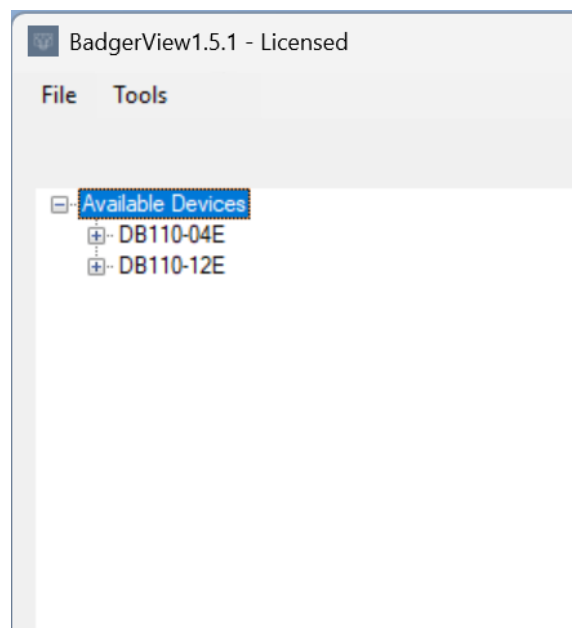
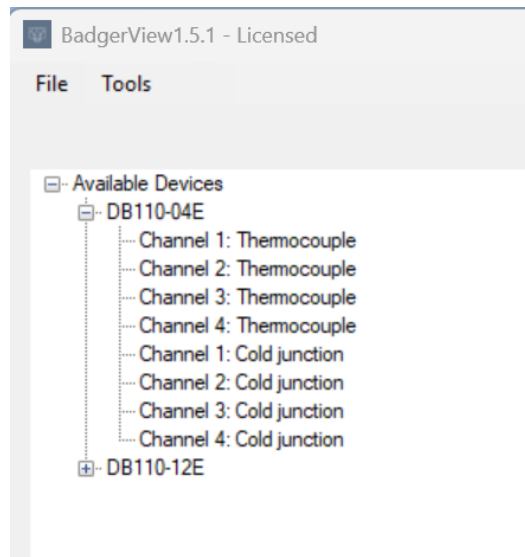

Figure 7: Device tree view with two devices
Figure 8: DB110-04E expanded to show available data channels
Figure 7 shows the device tree view with two devices located. In this instance, a DB110-04E 4-channel Ethernet thermocouple logger and DB110-12E 12-channel thermocouple logger have been identified. Both devices are displayed in summary mode, with the available data channels hidden. Clicking the + symbol to the left of the device expands the listing to show data channels available, as shown in Figure 8.
1. Select the + symbol next to the desired device to display available channels for measurement, as shown in Figure 8